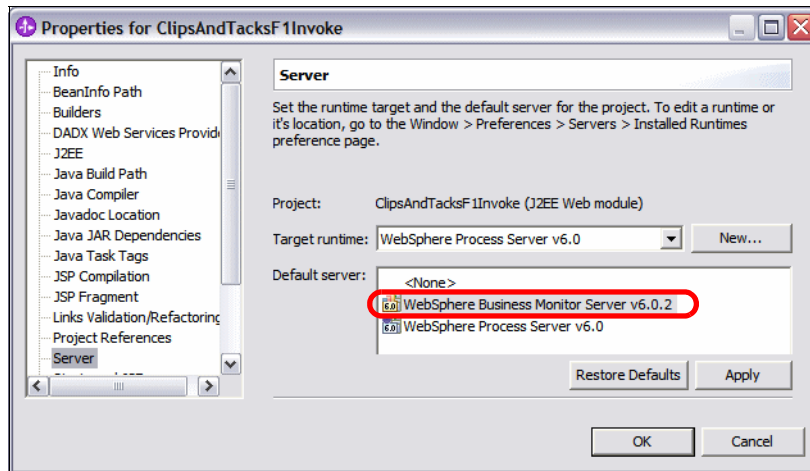

Figure 12-84 Project properties to run on the Monitor Server
- ▶ Select the `ClipsAndTacksF1Invoke` project and *Properties*. Select *Server* and select the *WebSphere Business Monitor Server v6.0.2* and click *Apply* (Figure 12-84). Alternatively select `<None>` and you are prompted for the server every time you run the application.